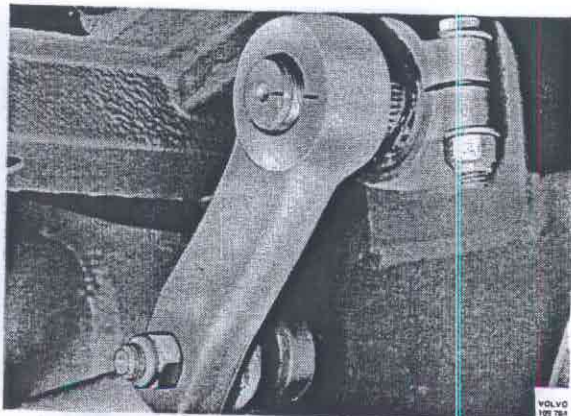

Fig. 64-24. Marking up pitman arm - sector shaft
5. Screw tight the pitman arm according to the marking, see Fig. 64-24, and lock the nut with the lock washer.